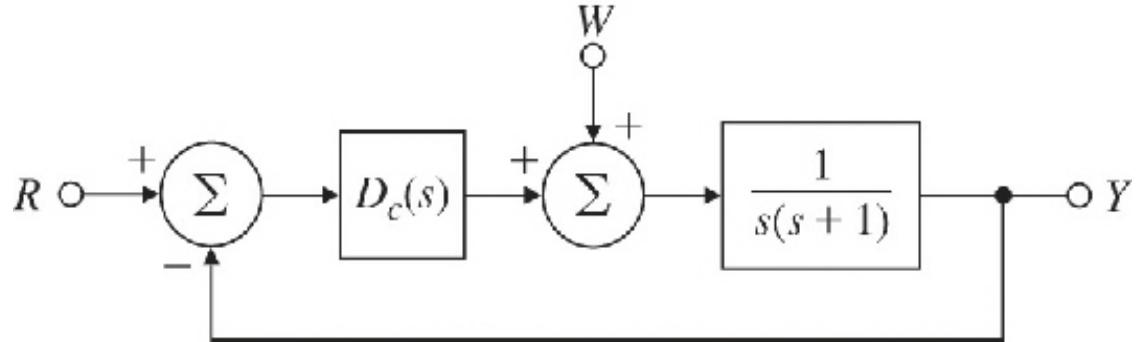

Fig. 5.63 Control system for Problem 5.33
33. Consider the Type 1 system drawn in Fig. 5.63. We would like to design the compensation $D_c(s)$ to meet the following requirements: (1) The steady-state value of y due to a constant unit disturbance w should be less than $\frac{4}{5}$, and (2) the damping ratio $\zeta = 0.7$. Using root-locus techniques,